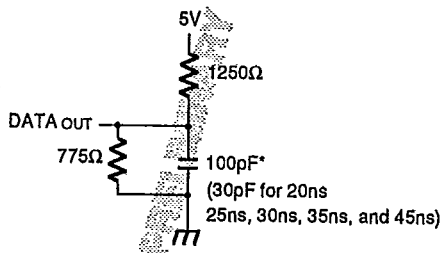

Figure 1. Output Load
Output Load	See Figures 1, 2, and 3
1. Transition is measured ±500mV from low or high impedance voltage with load (Figures 1, 2, and 3).